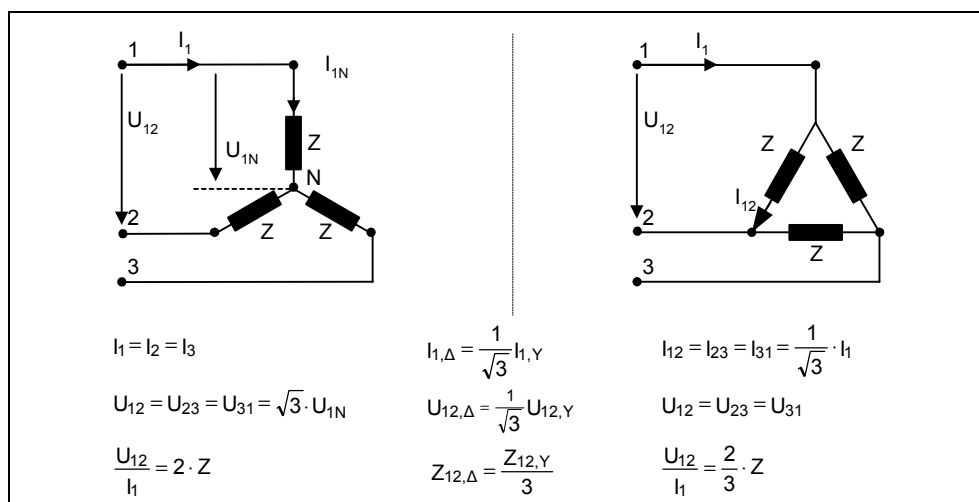

Fig. 3-19 Star / delta circuit configurations
- If the rated motor data that is available (P0304, P0305, P0350) does not match the motor circuit configuration, then the appropriate conversion (refer to Fig. 3-19) must be made and then entered.